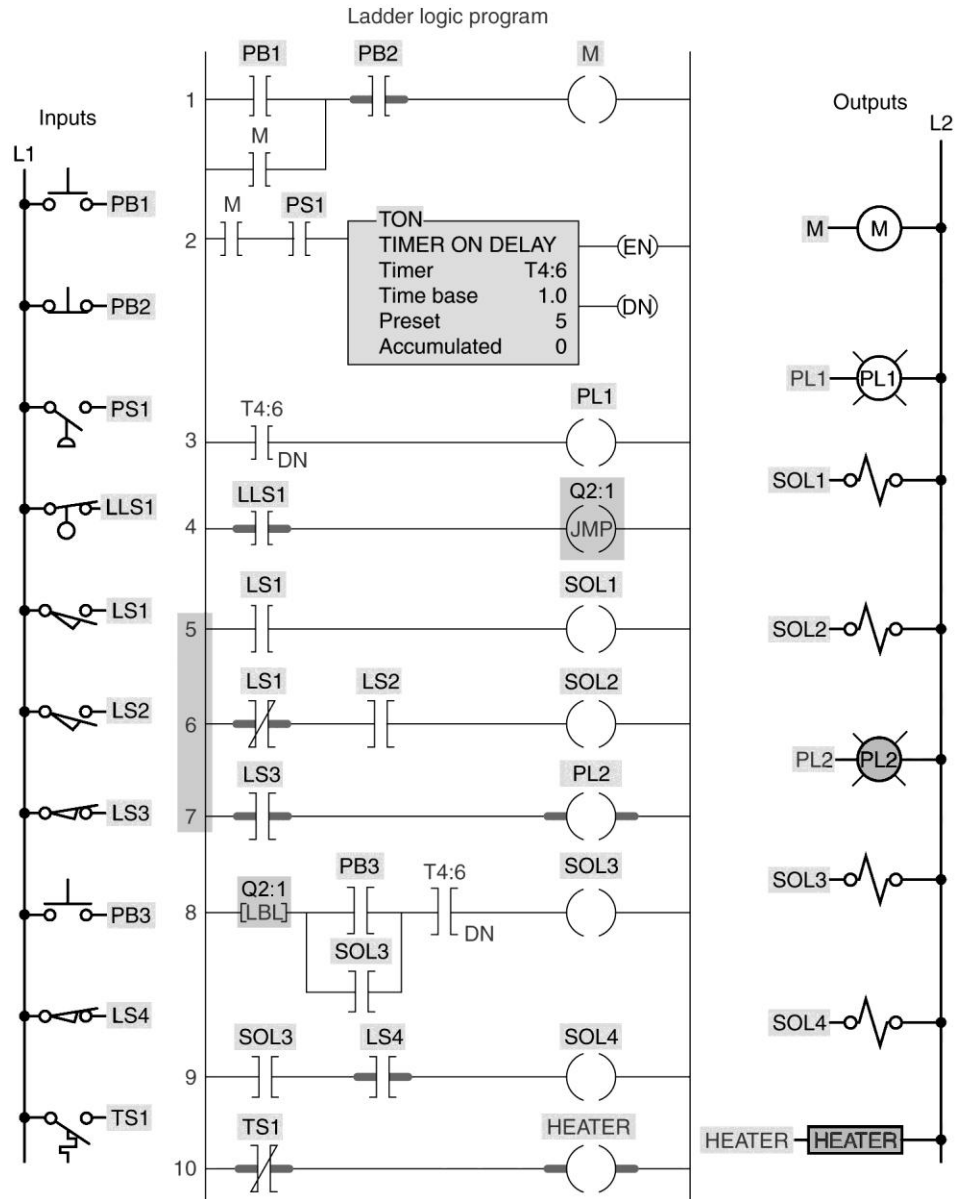

Figure 9-12 Program for assignment 4.
4) The jump-to-label program of Figure 9-12 is described in the text. Prepare an I/O connection diagram and ladder logic program that will simulate its operation. Use addresses that apply to your PLC installation. Enter the program into the PLC, and verify its operation.